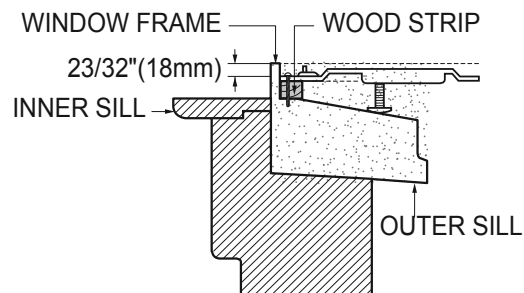

FIG. 15
- \* Dimensions and geometry of windows are different according to manufacturer's. Check your window and refer to FIG.15 to install the support bracket firmly.